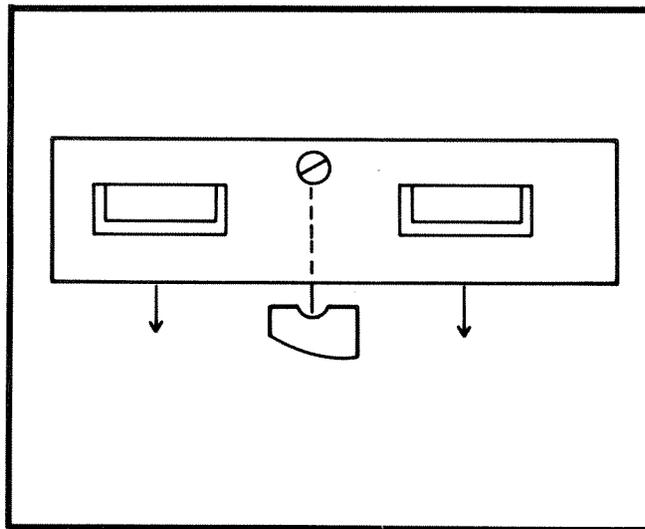

Figure 2-5. Installing Deck on Stand
- STEP 6** The unit will be dropped in from the top. It is recommended that assistance be obtained for dropping the unit onto its cradle. The unit weighs 91 pounds. The two-slotted screws will rest in the groove provided in the post. (See Figure 2-5.)